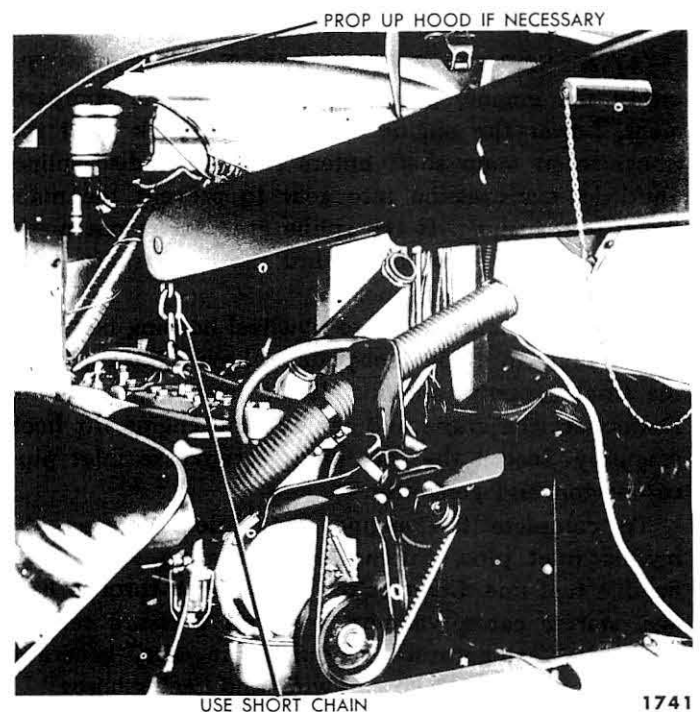

Fig. 5—Lifting the 6-Cylinder Engine
(1) *H OR M SERIES ENGINE REMOVAL.* Install the engine lift bracket on the cylinder head. Connect a portable floor crane to the lift bracket and take up the engine load (fig. 5). Remove the bolts which secure the transmission to the flywheel housing. Move the engine away from the transmission, lift it high enough to clear the chassis, and carefully maneuver the engine out of the engine compartment.